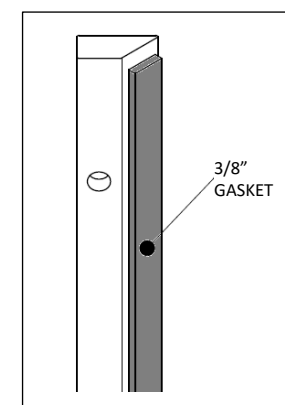

Fig. E8 – Gasket install on glass retainer
5. Attach gasket to glass retainer bar as shown in Fig. E8.